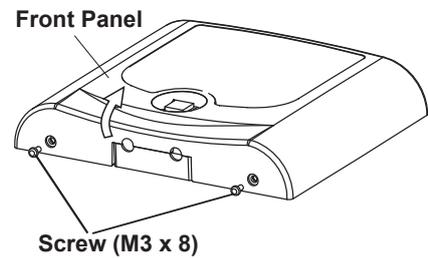
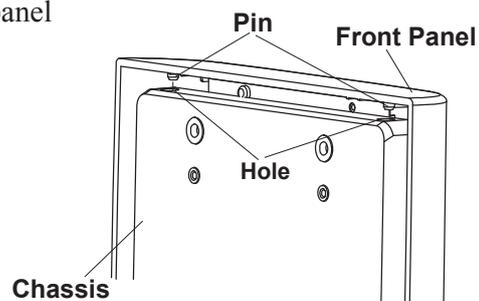

Fig.3-19 Opening Front Panel
Fig.3-22 Upper side of Sub Controller
1. Remove two (M3 x8mm) screws from the under side of the controller and open the front panel. **(Fig.3-19)**
7. Set the pins located on the upper side of the front panel into holes on the top of chassis and attach the front cover to the chassis with two (M3 x 8mm) screws. **(Fig.3-19 & Fig.3-22)**